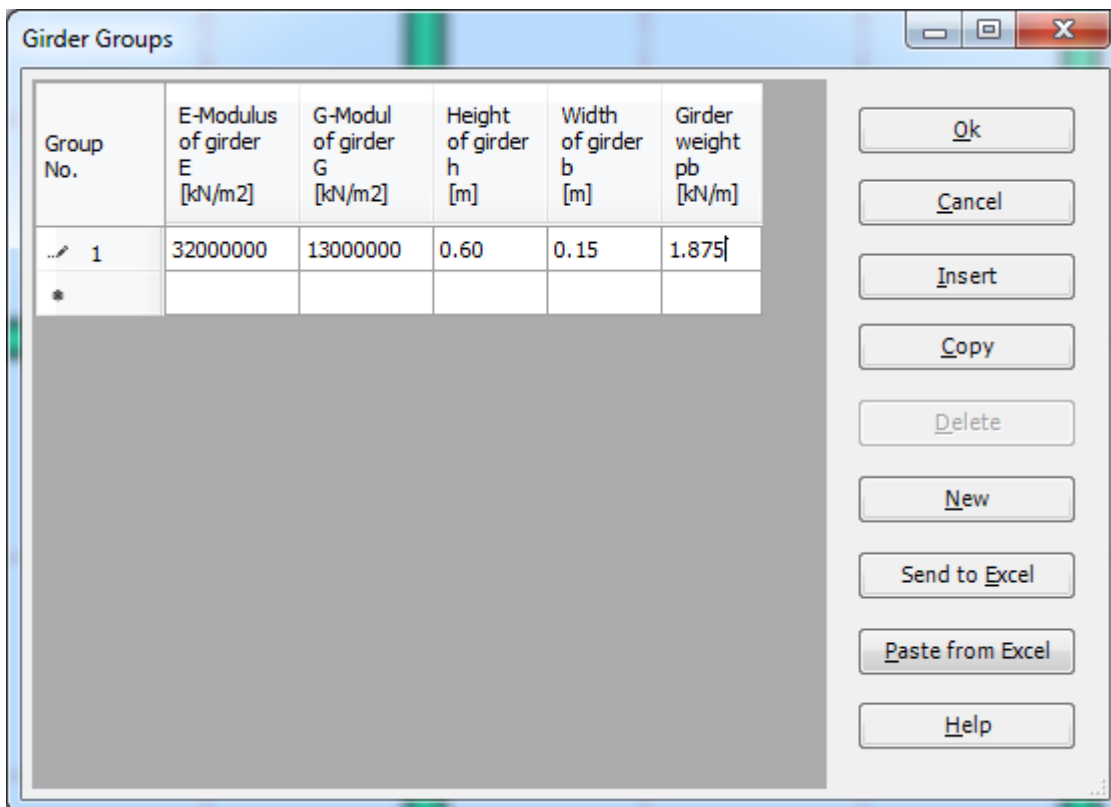

Figure 2.15 "Defining girder groups" list box
After clicking "OK" button in the "Cross section definition" option box, the following list box in Figure 2.15 appears.
- Enter the material properties of the girder, cross section dimensions and the girder weight as indicated in Figure 2.15. This is done by entering the value in the corresponding cell and press "Enter" button